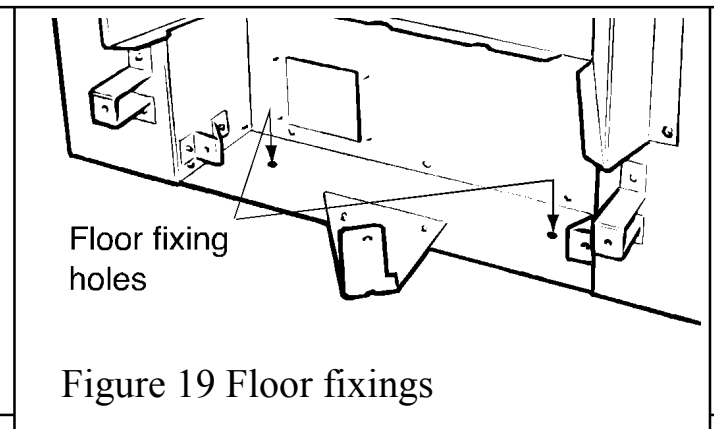

Figure 19 Floor fixings
8. Drill a hole into the fireplace floor through each of the two holes in the base of the convection box using a no.12 masonry drill. See figure 19.